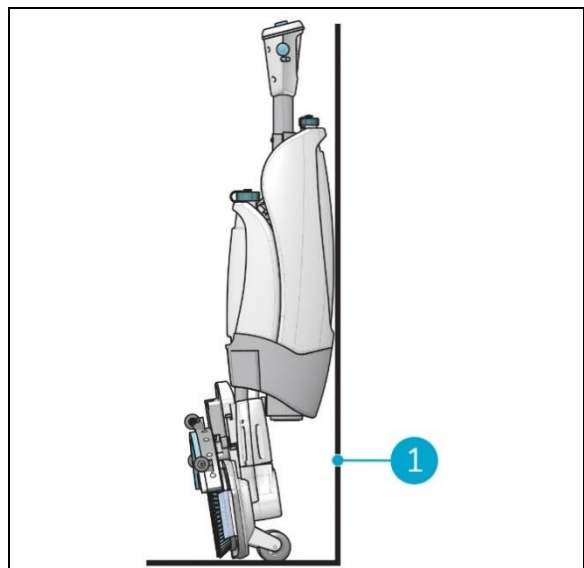

Figure 22
3. Store the i-mop XL basic close to a wall (Figure 22, pos 1) with the handle pointing towards the wall and the brushes facing away from the wall.